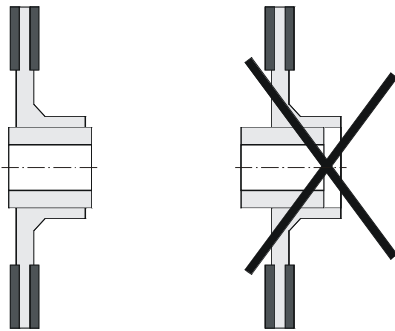

Fig. 6
The rotor (4) must be placed onto the hub (1) so that the toothing remains engaged even after wear on the friction linings (Fig. 6).